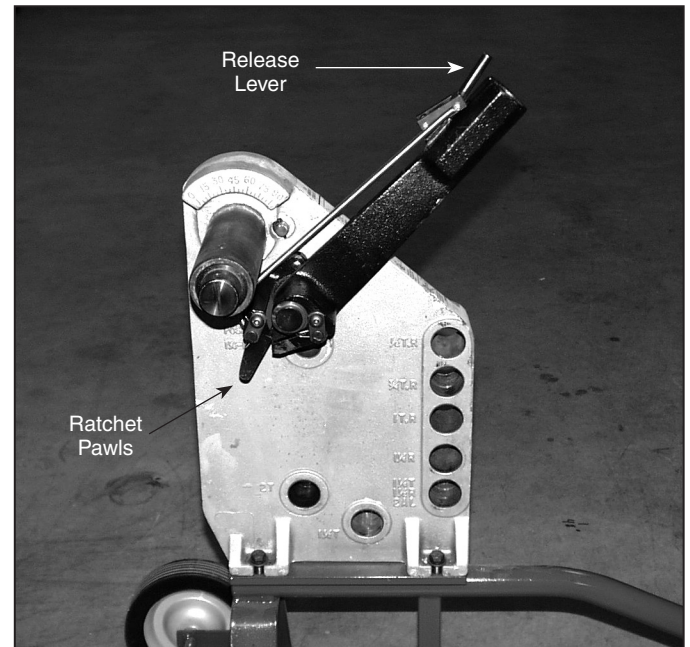

Fig. 3
2. To mount the shoe, pull the ratchet release lever back against the handle, figure 3.